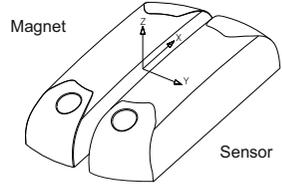

Figure 1
- Standard double pole - Single and double leaf doors Figures 1 & 2